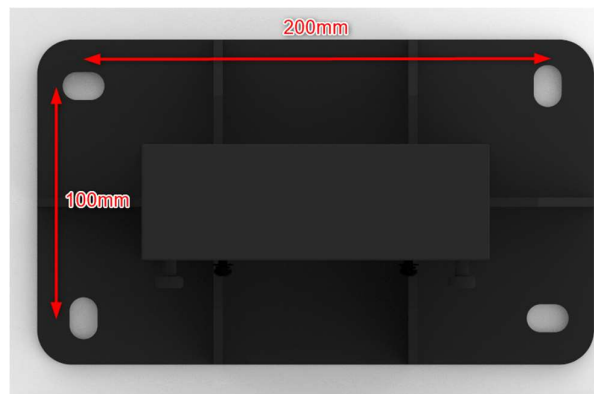

Figure A-22 Fixed base
1. Drill 4 holes with A diameter of 10mm and A depth of 150mm on the concrete floor, and the spacing between hole centers is 100mm*200mm. Use 4 M10*120 expansion screws to install and tighten the charging station posts, as shown in Figure A-22 and A-23.